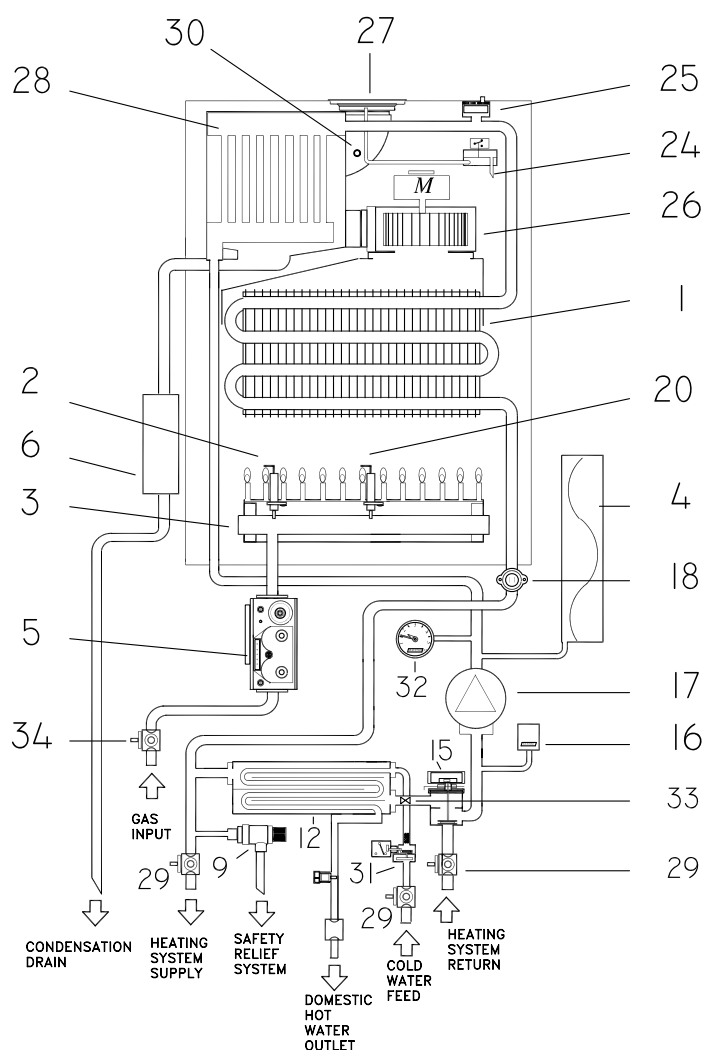

Fig. 1
#### BASIC COMPONENTS - (See figure 1)
- 1.2** Fig.1.